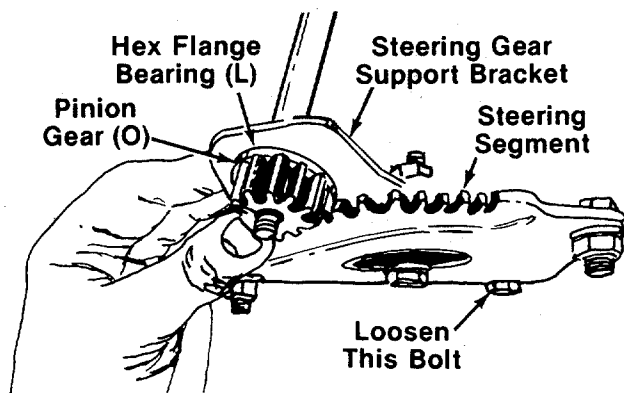
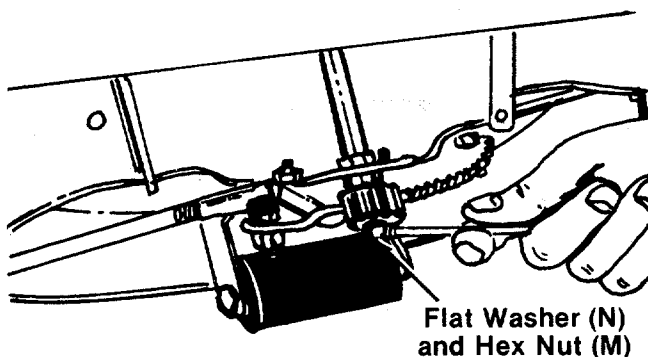

FIGURE 7.
FIGURE 8.
6. **Style A**—Insert the **steering shaft** with assembled parts through the **steering housing cover**. The lower end of the shaft should extend through the hole in the front end of the **steering gear support bracket** (Ref. No. 12 on page 30). See figure 7.
**Style B**—Insert the **steering shaft** through the **steering housing cover**. Place **flat washer (U)** and **plastic spacer (V)** over end of **steering shaft** before inserting the shaft through the hole in the front end of the **steering gear support bracket** (Ref. No. 12 on page 30).
8. Place **hex flange bearing (L)**, flat side down, over the end of the **steering shaft**, and seat it into the **steering gear support bracket**. See figure 7.
9. Position **pinion gear (O)** over splined collar on **steering shaft**. Then place **flat washer (N)** ( $\frac{5}{8}$ " diameter) on shaft and secure with **hex nut (M)** ( $\frac{5}{16}$ " I.D.). Do not tighten at this time.
11. Now tighten the hex nut (M) which secures the pinion gear. See figure 8.